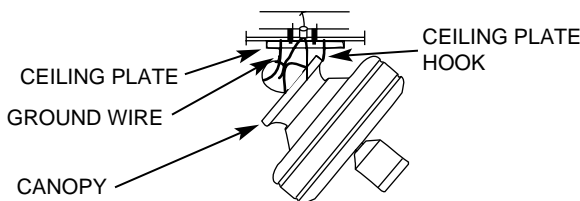

FIGURE 6A
C. Being careful not to scratch the canopy finish, hang the fan from the hook in the ceiling plate using one of the (2) slots in the canopy. See Figure 6A.
B. Being careful not to scratch the canopy finish, hang the fan from the hook in the ceiling plate using one of the (2) slots in the canopy. See Figure 6A.